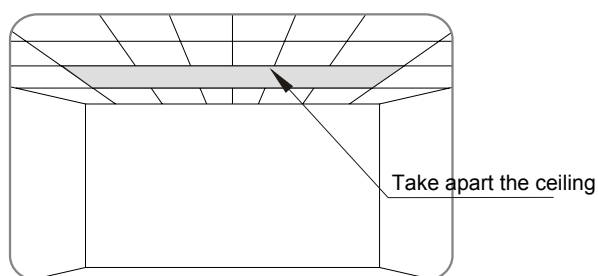
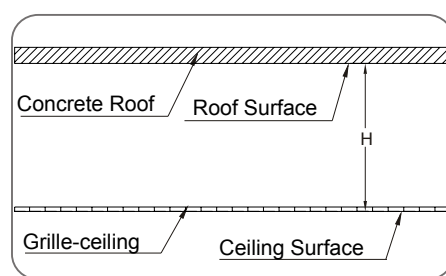

Figure 1
Figure 2
- 1 Choose a position according to the required space and remove the selected ceiling tiles (figure 1). Please measure the distance "H" (figure 2) between the concrete roof and ceiling surface.